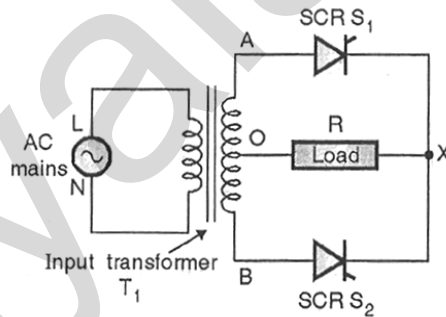

Fig. 1 : Midpoint configuration schematic diagram
- One of the two fully controlled circuits is the midpoint configuration which is as shown in figure 1.
- It uses an input centre tapped transformer  $T_1$ , SCRs  $S_1$  and  $S_2$  and the load is connected between the common cathode point of the two SCRs (X) and the center tap (O) of the secondary winding of  $T_1$ .